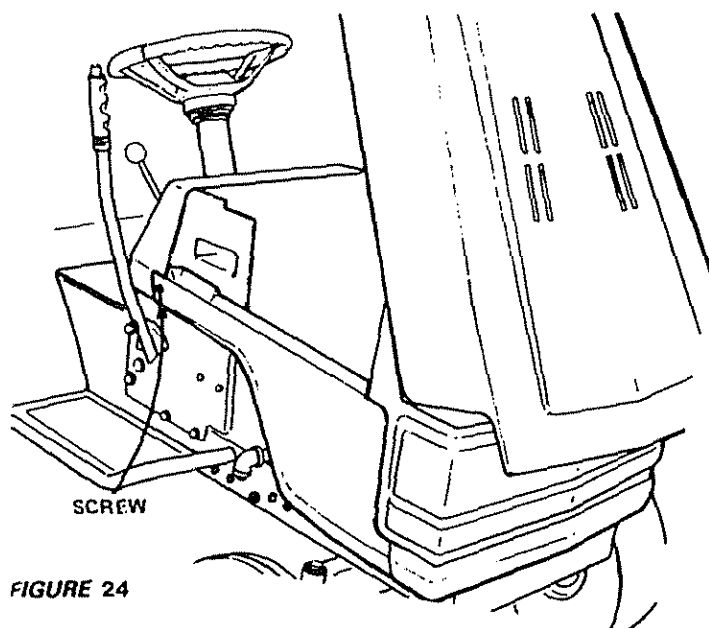

FIGURE 24
- b. To remove hood, grill and side panels, raise hood and loosen one screw on each side panel. (This screw remains in the side panel) (Fig. 24).